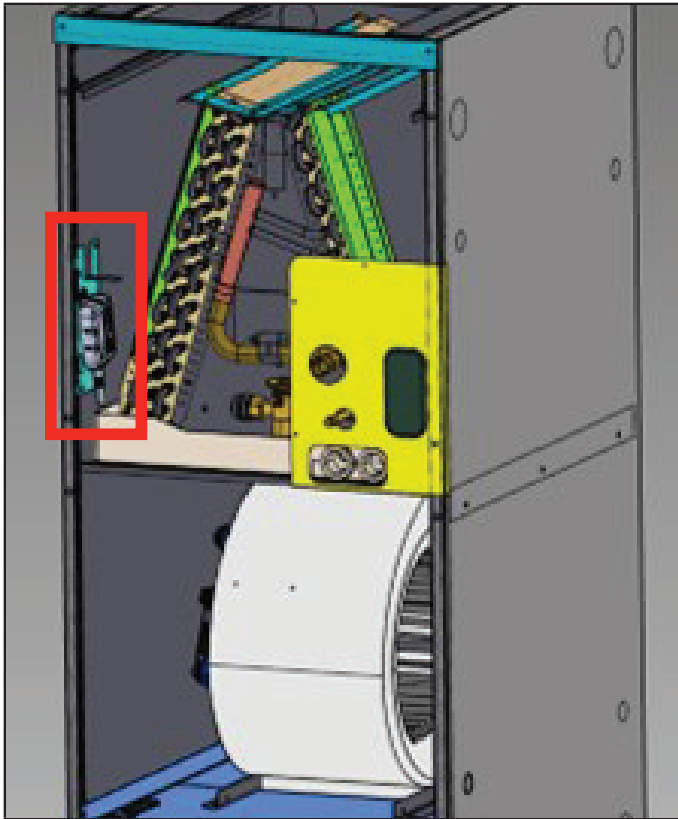

FIGURE 12
- 3 - After coil assembly and center support bracket are reinstalled into unit, with air handler unit panels removed, install sensor bracket assembly to the center support bracket by lining up the holes as shown in figure 12.